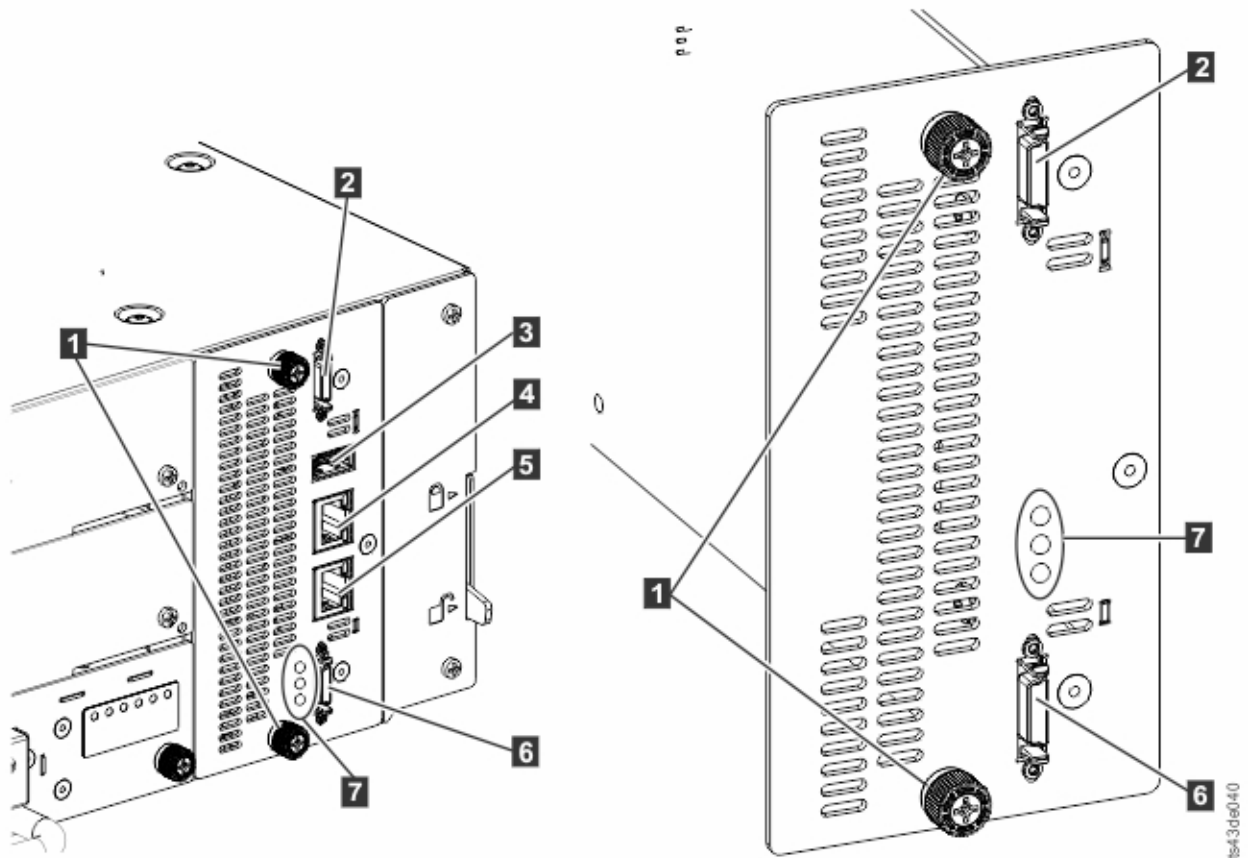

Figure 69. Controller card components
3. Remove the Ethernet cables (4 and 5) and the USB cable (3), if present. (An Expansion Module does not have Ethernet or USB ports. See Figure 69 on page 151).
4. Loosen the two blue captive thumbscrews (1) on the controller.
3. Tighten the blue captive thumbscrews (1) with your fingers to secure it to the module.
4. Replace the expansion interconnect cables (2 and 6), the Ethernet cable or cables (4 and 5), and the USB cable (3) that were removed previously. (An Expansion Module does not have Ethernet or USB ports. See Figure 69 on page 151).